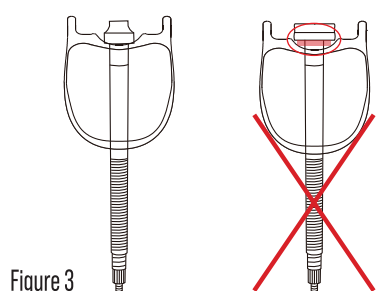

Figure 3
Do not use any tools to tighten the valve (Figure 3 – to avoid).
Step 3: Pour the sealant through the open valve body. The recommended volume (depending on tire size) is 30-60 ml per wheel. (Fig. 3)